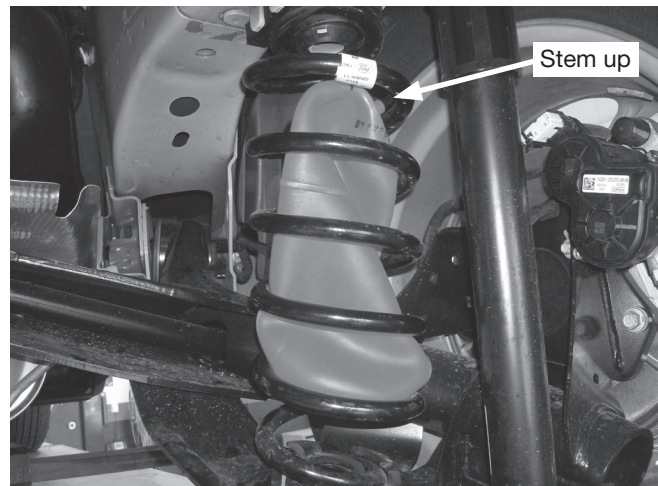

Fig. 3
2. Insert the flattened end of the air spring (A) into the bottom opening of the coil spring (with the stem at the top) (Fig. 3). Push the air spring up into the coil spring by hand or with a blunt instrument such as a spoon-type tire iron.